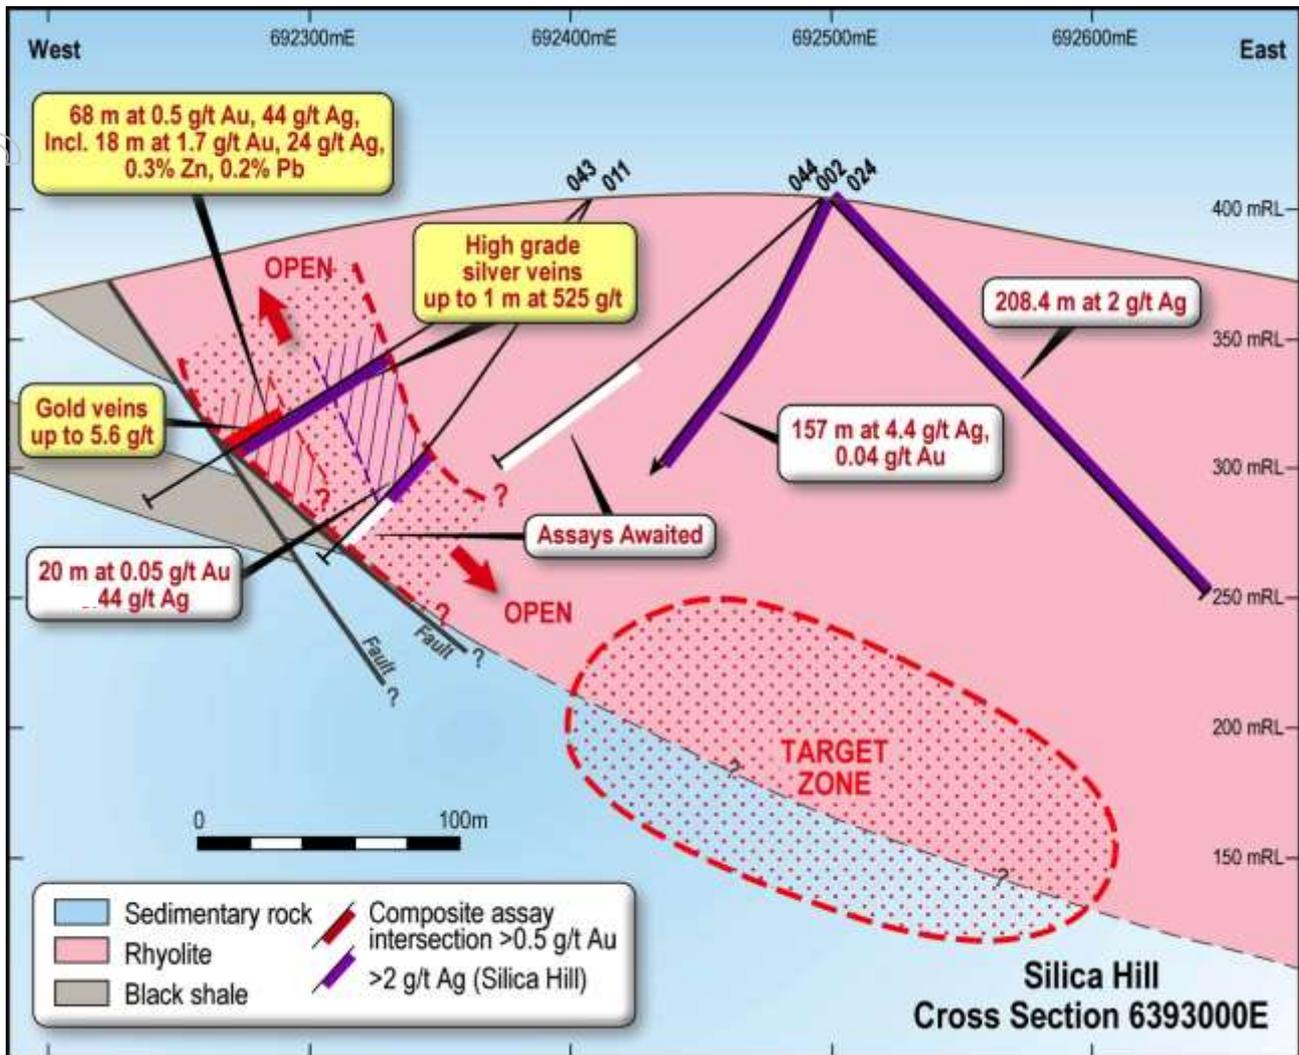

Figure 1. Interpreted cross section through Silica Hill
In addition, the mineralisation, which comprises disseminated sulphide, veins and semi-massive sulphide-veins intersected from 122 metres down hole, is between 40 metres and 60 metres away from the intercept in Hole CMIPT043 (Figures 1 and 2).
Detailed studies of Hole CMIPT011 including measurements with a handheld XRF instrument together with newly received assays for the lower part of the mineralised zone in Hole CMIPT043, have confirmed that the mineralisation is zoned and comprises an upper silver-rich zone and a lower gold-rich zone (Figure 1).
The first 20 metres of mineralisation in Hole CMIPT011 were drilled by reverse circulation (RC) in a previous drill campaign and returned an intercept of 20 metres at 44 g/t (1.3 ounces) silver and 0.05 g/t gold with lesser base metals and associated pathfinder metals. It is interpreted that the hole did not intersect the lower gold-rich part of the mineralised zone (Figure 1).
Significant silver-gold mineralisation has now been defined by drilling over an area of 200 metres by 100 metres in dimension and down to 200 metres below surface. The mineralisation is open in all directions, including up-dip towards surface (Figures 1 and 2). It is evident that there is a large silver “halo” of up to 10-15 g/t in the Silica Hill rhyolite above the mineralisation (Figure 1). It is possible that this may be a “leakage halo” from depth and accordingly the down-dip extension of the mineralisation in Holes CMIPT043 and CMIPT011 is a compelling drill target (Figure 1). A down hole EM survey of Hole CMIPT011 will be completed before this target area is drilled.